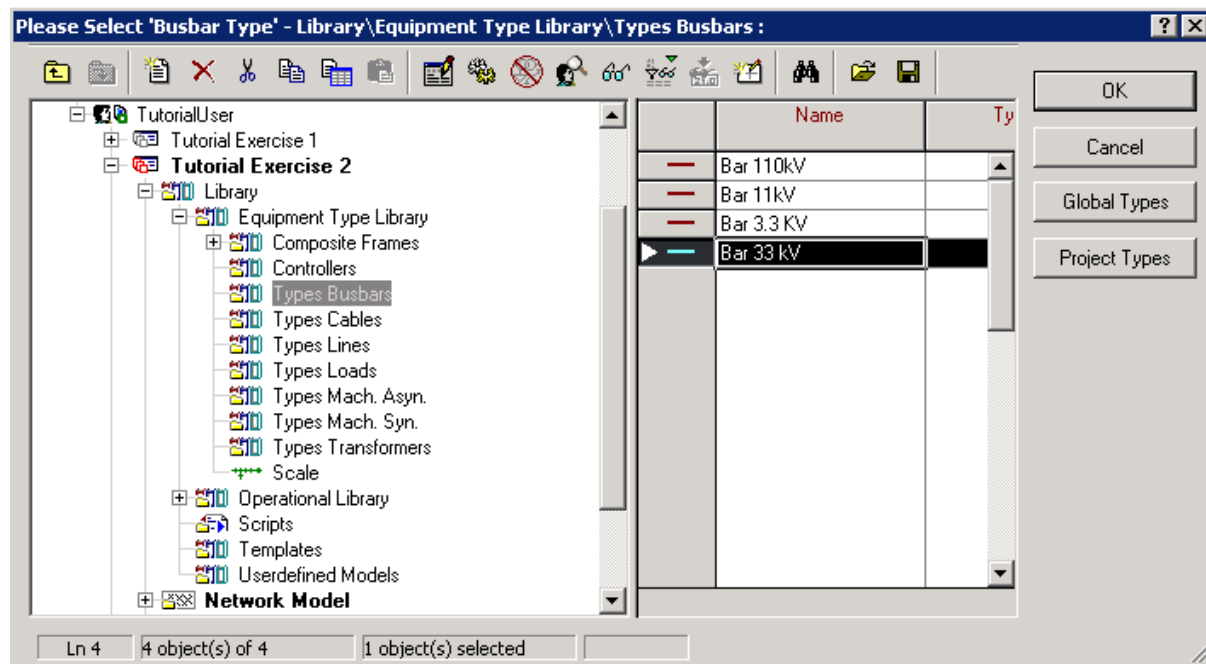

Figure D.2.2: Selecting a busbar type
- To enter the *Type*, left click the type selection button (▼) and choose the *Select Project Type* option. This opens the library in the database tree. Please navigate to the 'Types Busbars' folder as shown in Figure D.2.2. This busbar library has been installed by the Tutorial Manager. When needed, click on the '+' symbol to open the Database subfolders or double click them.
- Select the "Bar 33 kV" type by left clicking the small object icon. Holding the mouse still above the object icon will bring a balloon help as depicted in Figure D.2.2.